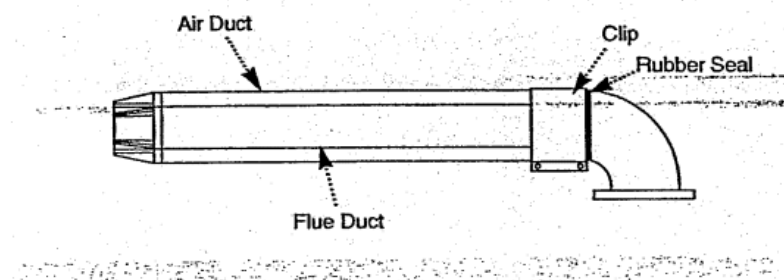

Fig. 27
12. Insert the flue duct into the air duct and engage it in the terminal (Fig. 27).
14. Align the clip over the rubber seal. For neatness the screws on the clip flange should be below the air-duct if possible providing they remain accessible (Fig. 27). Secure the clip.